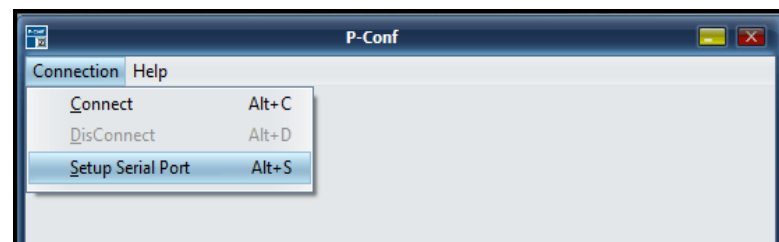

Figure 1 - P-Conf starting window
3.1 Diagrams of Figure 1 explain the principle of operation of the device.
1) turn on the PC and launch P-Conf; a window with two menu items shows up (Figure 1);
2) select "Connection" - "Setup Serial Port" (Figure 1), then select the port the programmer is connected to, click OK to confirm (Figure 2);